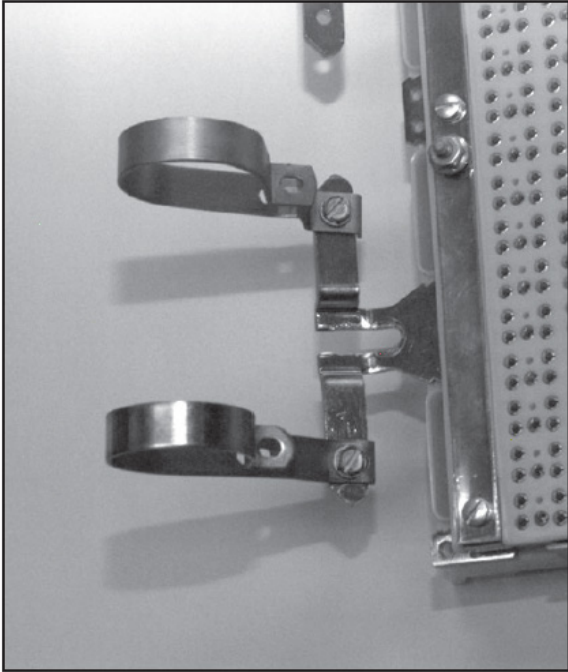

Figure 6
4.3.4 If the existing connector mounting bar cannot be removed, the universal mounting bar is bolted directly over the existing bar. The spacer washers (included with the mounting hardware) must be installed between the universal connector mounting bar and the nonremovable bar to provide clearance for the tips of the connector mounting screws. The universal connector bar should not extend beyond the edge of the existing bar (Figure 6).
6.1.1 Mount the cable clamps to the connector mounting bracket (Figure 6).